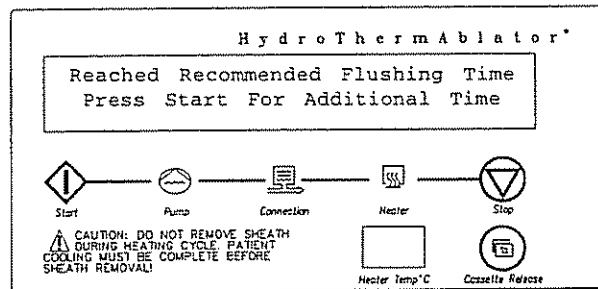

Figure 45
5. Press start once to get an additional 1 minute of flushing time. Multiple one (1) minute flushing cycles can be obtained if needed by pressing "Start" once when this message (Figure 45) is displayed.
6. If good visualization and correct positioning of the procedure sheath have been achieved and the message in Figure 45 is on the front panel display, press "Start" twice to refill the system.